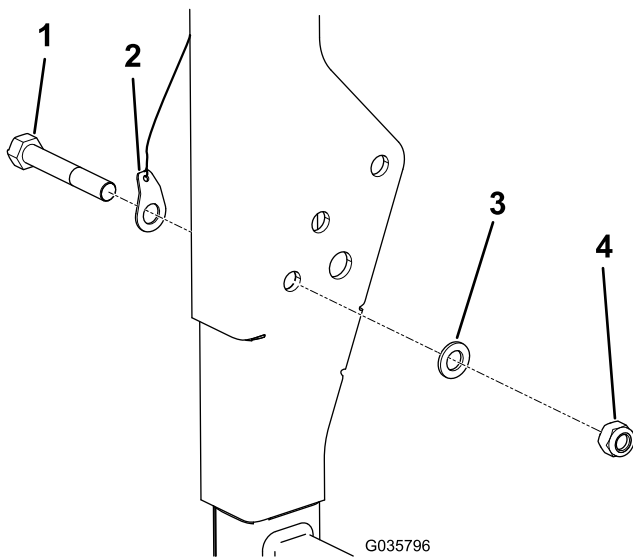

Figure 1
2. On the same side of the ROPS on which you plan to install the kit, remove the nut, bolt, and washer from the ROPS and discard the nut and bolt; refer to Figure 1.